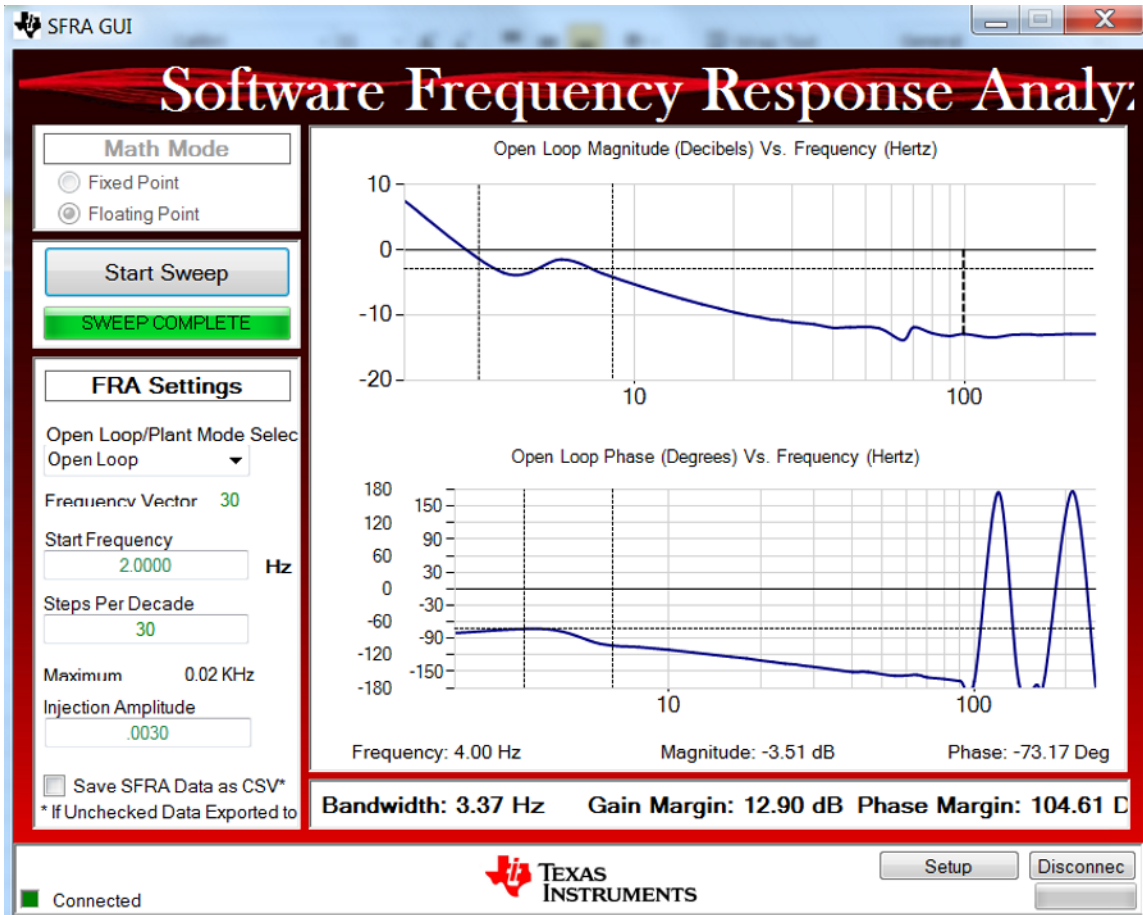

Figure 48. SFRA Run on Balance Voltage Loop
- The SFRA GUI will connect to the device. A SFRA sweep can now be started by clicking *Start Sweep*. The complete SFRA sweep will take a few minutes to finish. Activity can be monitored by seeing the progress bar on the SFRA GUI and also by checking the flashing of blue LED on the back on the control card that indicate UART activity. Once complete a graph with the open loop plot will appear, as shown in Figure 48. This graph verifies that the designed compensator is indeed stable.